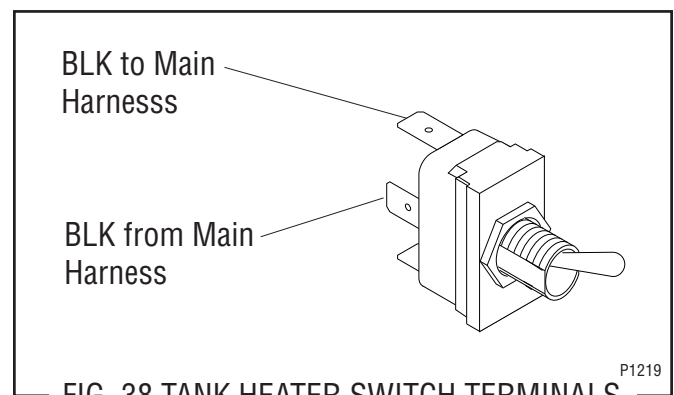

FIG. 38 TANK HEATER SWITCH TERMINALS
4. Connect the wires to the new switch, refer to Fig. 38.